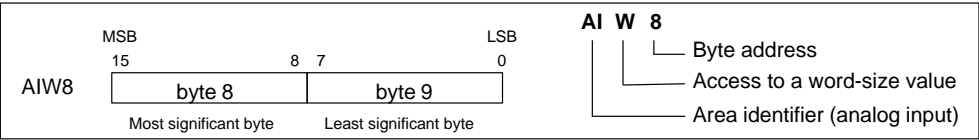

Figure 7-5 Accessing an Analog Input
The S7-200 converts a real-world, analog value (such as temperature or voltage) into a word-length (16-bit) digital value. You access these values by the area identifier (AI), size of the data (W), and the starting byte address. Since analog inputs are words and always start on even-number bytes (such as 0, 2, or 4), you access them with even-number byte addresses (such as AIW0, AIW2, or AIW4), as shown in Figure 7-5. Analog input values are read-only values.